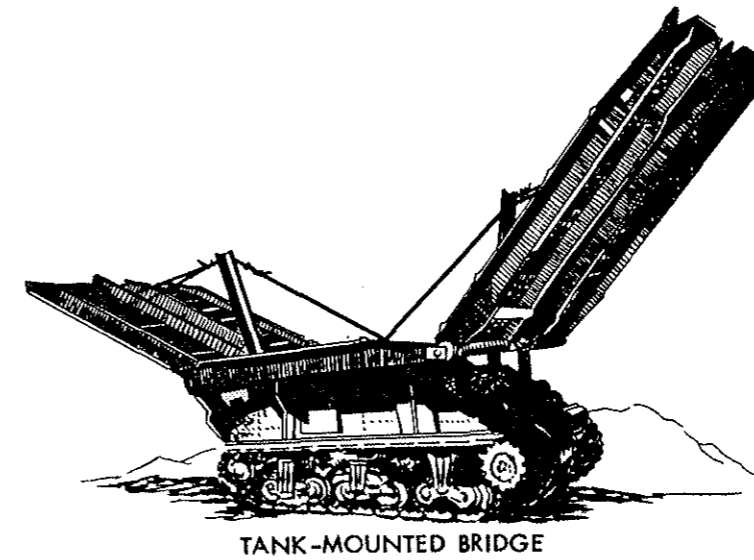

Figure 88.
(d) *Treadways*. This is a roadway consisting of two parallel tracks for the wheels of vehicles to run upon. A treadway is a unit designed to serve as balk, chess, and siderail combined (fig. 88).
4. *Special Types*. An example of a special type is the vehicular mounted bridge (fig. 88) used in assault operations. It usually consists of a tank chassis, with a bridge structure mounted on its hull in a folder position. The bridge may be put into position either mechanically or by hand. One type of vehicular mounted bridge utilizes the vehicle as a center support. In another type, the bridge may be lowered over the gap to be bridged and be separated from the vehicle.